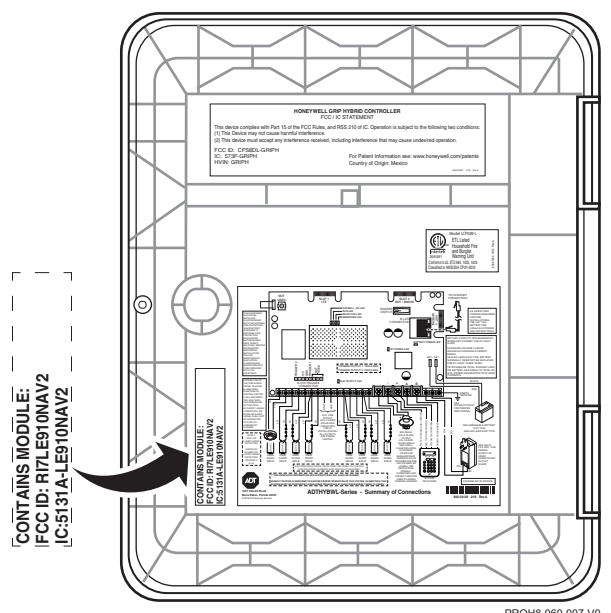

Figure 3. FCC/IC Label Location
1. Affix the provided FCC/IC label (P/N 800-25180 for the PROWIFIZW) on the PROH8PLUS cabinet (refer to Figure 3)